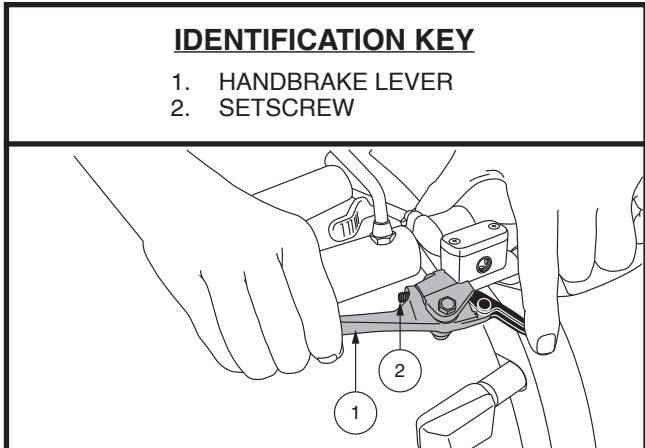

Figure 3. Handbrake Lever
*NOTE: Handbrake effectiveness, which is how quickly the squeezing of the handbrake lever will bring your scooter to a stop, can be modified by tightening or loosening the setscrew located on the handbrake lever. See figure 3.*
*NOTE: If your handbrake is equipped with a lock function as shown in figure 1 or figure 3, you can activate the brake lock function by squeezing the handbrake lever and rotating or pushing the lock lever to engage the lock. To release the handbrake lock, fully squeeze the handbrake lever. See figure 1 or figure 3.*